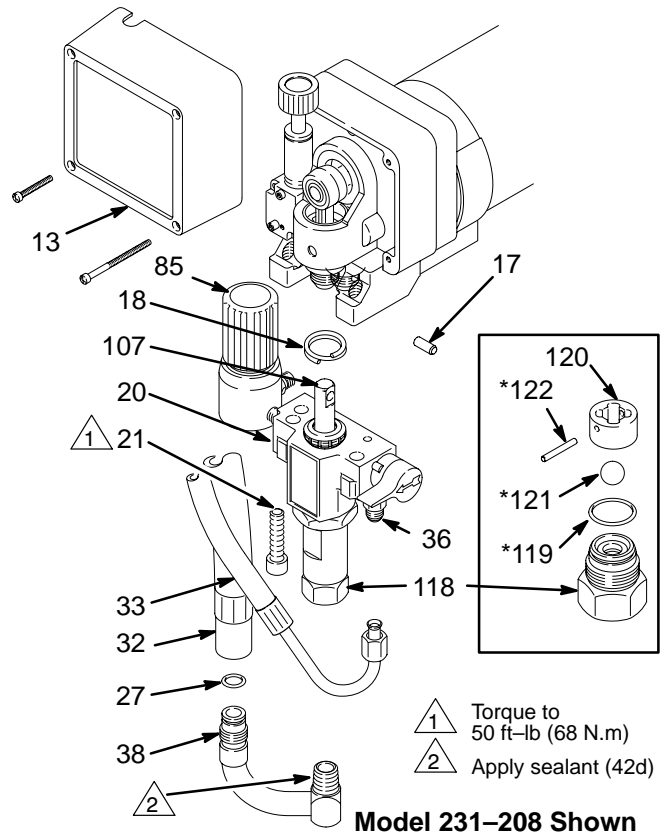

Fig. 16
6. Place a new brush (C) in the holder (B) so the ramp (H) faces the spring. See Fig. 16.
Removing the pump (See Fig. 16.)
Installing the pump (See Fig. 16 and 17.)
Intake valve repair (See Fig. 16)